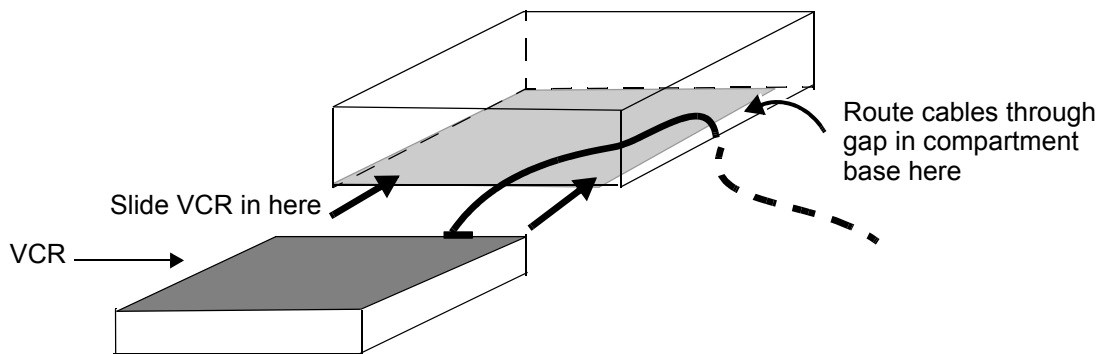

Figure 8-139 Sliding JVC VCR into Side Compartment
- 7.) Carefully slide the VCR into the side compartment, and at the same time, route all the cables through the gap between the compartment base and the *right* side of the compartment (as shown in Figure 8-139 below) while gently pulling them in a *downwards* direction.